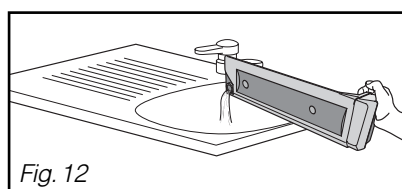

Fig. 12
The condensation container must be emptied after each drying cycle (Fig.12).
- Empty the container (Fig. 12).